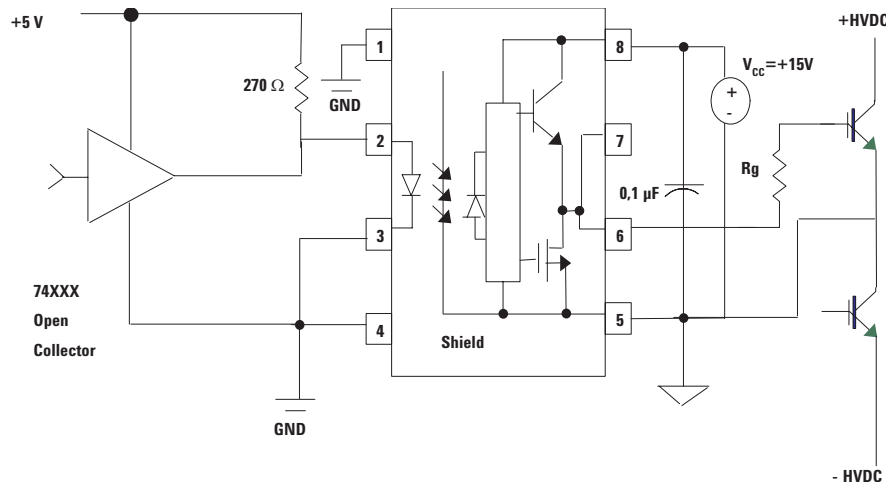
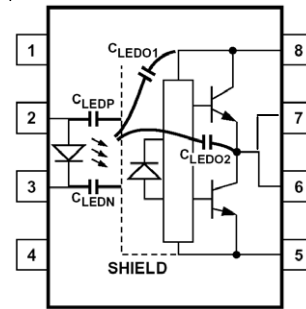
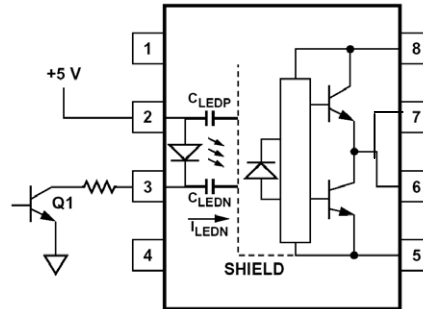
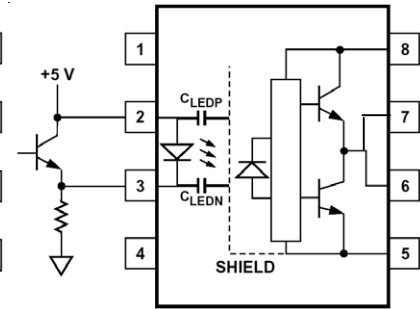

Figure 25. Recommended LED Drive and Application Circuit for HCPL-3180
Figure 30. Optocoupler Input to Output Capacitance Model for Shielded Optocouplers.
Figure 32. Not Recommended Open Collector Drive Circuit.
Figure 33. Recommended LED Drive Circuit for Ultra-High CMR
To keep the IGBT firmly off, the HCPL-3180 has a very low maximum  $V_{OL}$  specification of 0.4 V. The HCPL-3180 realizes the very low  $V_{OL}$  by using a DMOS transistor with 1 W (typical) on resistance in its pull down circuit. When the HCPL-3180 is in the low state, the IGBT gate is shorted to the emitter by  $R_g + 1\text{ W}$ . Minimizing  $R_g$  and the lead inductance from the HCPL-3180 to the IGBT gate and emitter (possibly by mounting HCPL-3180 on a small PC board directly above the IGBT) can eliminate the need for negative IGBT gate drive in many applications as shown in Figure 25. Care should be taken with such a PC board design to avoid routing the IGBT collector or emitter traces close to the HCPL-3180 input as this can result in unwanted coupling of transient signals into the input of HCPL-3180 and degrade performance.
**Step 1:** Calculate  $R_g$  minimum from the  $I_{OL}$  peak specification. The IGBT and  $R_g$  in Figure 25 can be analyzed as a simple RC circuit with a voltage supplied by the HCPL-3180.
For the circuit in Figure 25 with the circuit in with  $I_F$  (worst
performance by using a detector IC with an optically transparent Faraday shield, which diverts the capacitively coupled current away from the sensitive IC circuitry. However, this shield does not eliminate the capacitive coupling between the LED and optocoupler pins 5-8 as shown in Figure 30. This capacitive coupling causes perturbations in the LED current during common mode transients and becomes the major source of CMR failures for a shielded optocoupler. The main design objective of a high CMR LED drive circuit becomes keeping the LED in the proper state (on or off) during common mode transients. For example, the recommended application circuit (Figure 25), can achieve 10 kV/us CMR while minimizing component complexity.
The open collector drive circuit, shown in Figure 32, cannot keep the LED off during a  $+dV_{CM}/dt$  transient, since all the current flowing through  $C_{LEDN}$  must be supplied by the LED, and it is not recommended for applications requiring ultra high CMRL performance. Figure 33 is an alternative drive circuit, which like the recommended application circuit (Figure 25), does achieve ultra high CMR performance by shunting the LED in the off state.